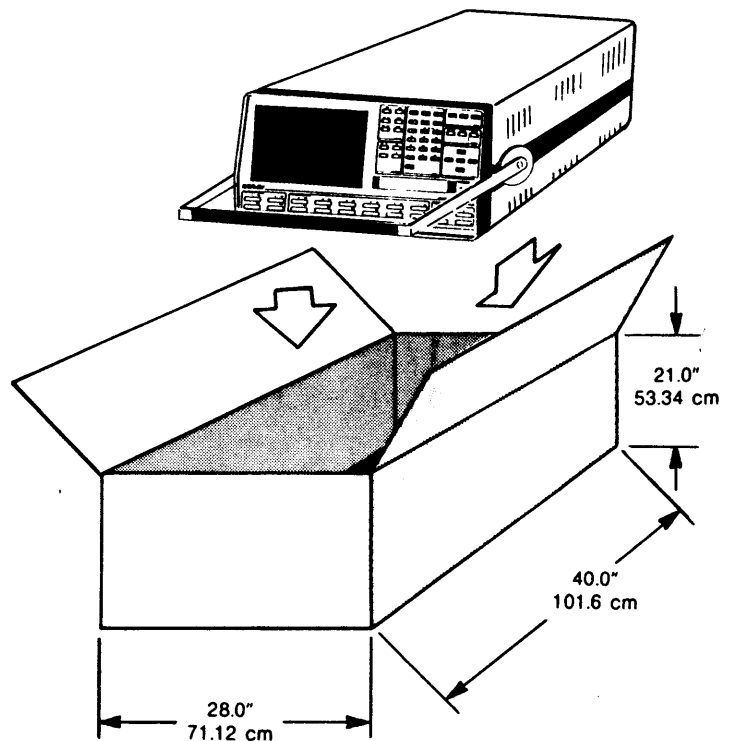

FIGURE 2-4. REPACKING
- 4) Package the instrument per the instructions given in Figure 2-4. To prevent any shipping damage, package it securely, with the handle folded back onto the cover (eighty percent of all shipping damage is to the handle assembly--due to improper packing).